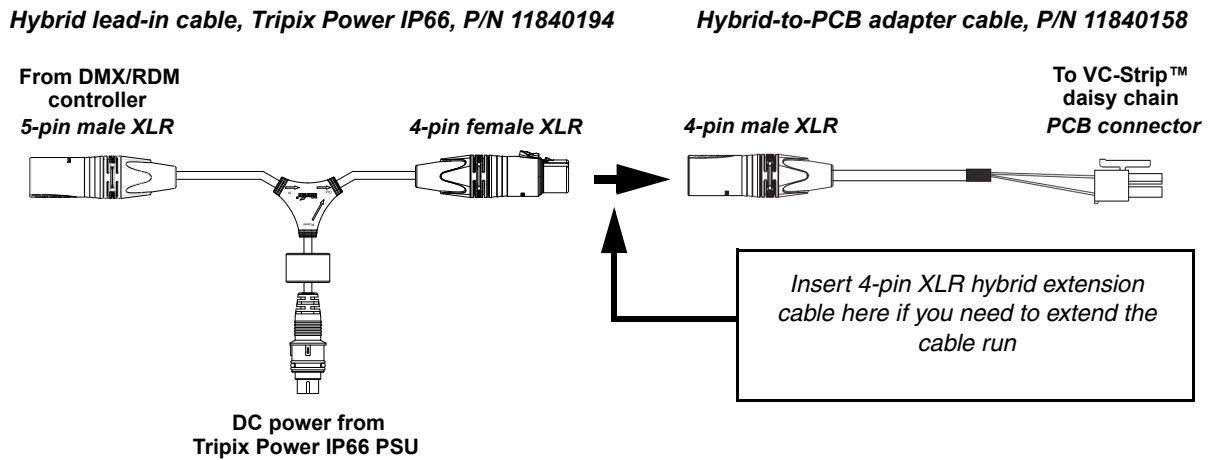

Figure 7: Tripix Power IP66 PSU and DMX input
- If you are using a **Martin™ Tripix Power IP66 PSU**, see Figure 7 below. Connect the power input connector of a Martin™ Tripix Power IP66 hybrid lead-in cable (P/N 11840194) to the DC output on the Tripix Power IP66.